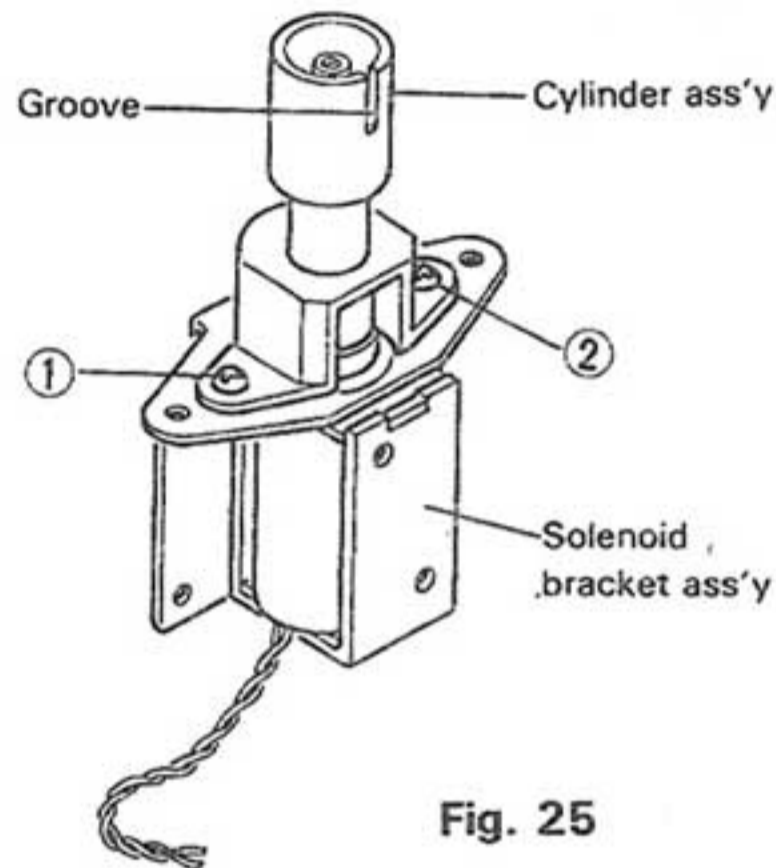

Fig. 25
1. Mount the cylinder ass'y to the solenoid bracket ass'y with the groove set at the opposite side to the solenoid ass'y fixing screws. (Fig. 25)